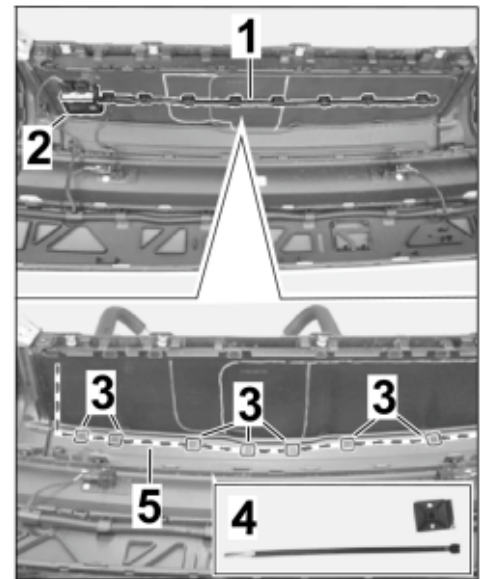

Figure 5
- 1.7.1 Carefully remove "Virtual pedal" antenna line with holder and tie-wraps (7 x) from the inside of the rear apron ⇒ Figure 5 -1-.
- 1.7.3 Clean bonding area in the new antenna line routing area to remove any dust and grease ⇒ Figure 5 -3-.